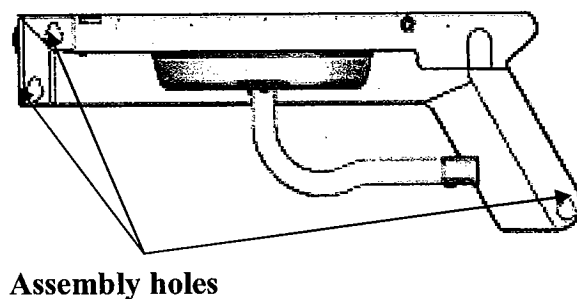
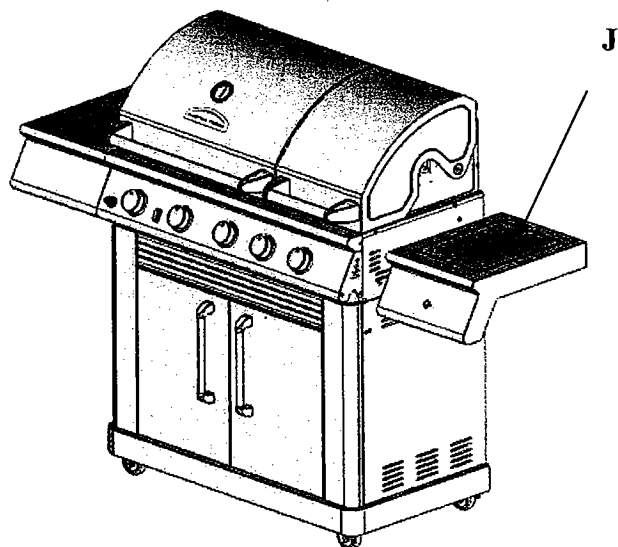
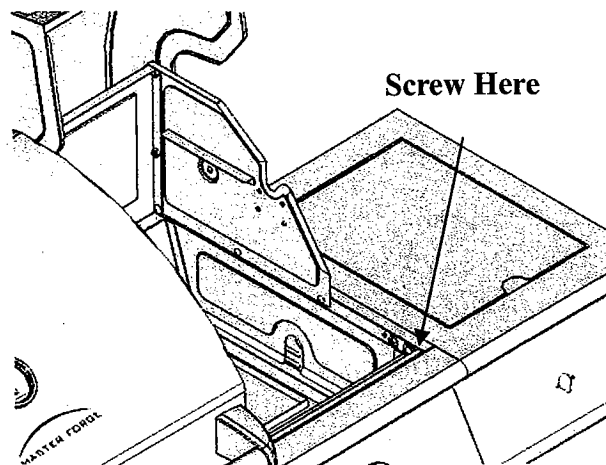

Fig. 25
Fig. 26
Fig. 27
- b. Align the side shelf holes (Fig. 25) with the two screws in burner box side panel and the one in the control box side panel, and push the shelf down to lock it in place. Then open the hood and use the 1/4-20 x 1 1/8-in (G) screw to fasten the side cooker shelf (J) from inside the burner box. Refer to Fig. 26 & Fig. 27. Then tighten the three screws loosened previously.